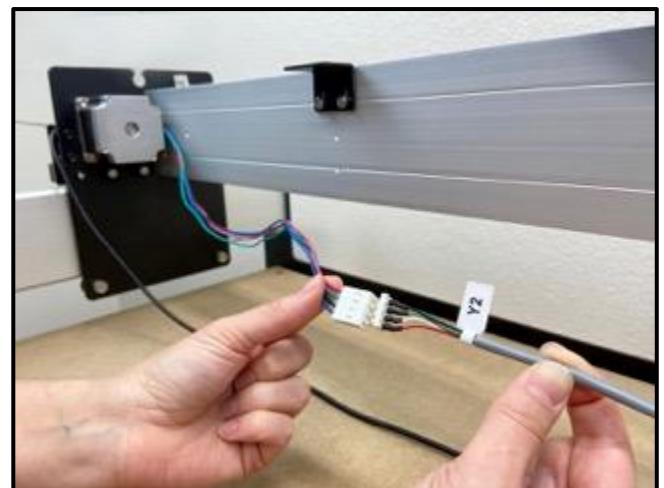

Figure 8-13
2. Extend the long gray 4-pin extension cable labeled "Y2" about 3/4 of the way across the machine and connect it to the Y2-motor leads as shown in *Figure 8-13*.